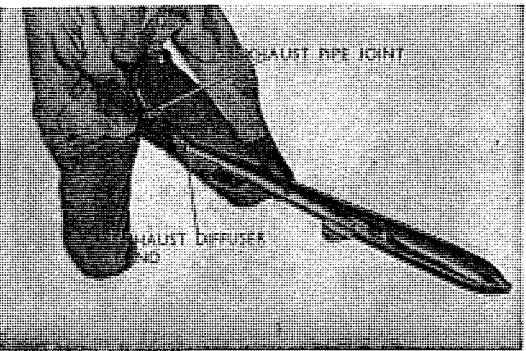

Fig. 4.54 Coupling exhaust pipe and muffler
1. Wash the diffuser pipe after carbon is removed by brushing. (Refer to Fig. 4.54)